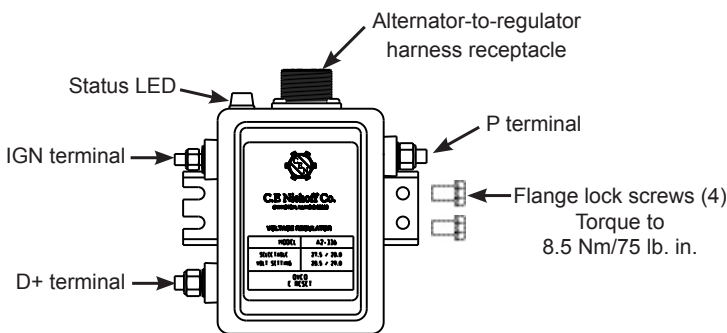

Figure 5: Conventional Regulator
3. Plug alternator-to-regulator into receptacle on regulator. See Figures 5 and 6 for receptacle location.